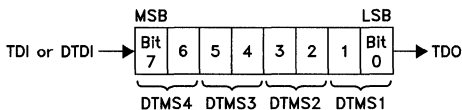

FIGURE 4. SELECT REGISTER BITS AND ORDER OF SCAN
The select register (SR) is an eight-bit serial register that determines which one, if any, of the DTMS lines follows the TMS or OTMS input. A reset operation forces all bits to a logic 0. The register is divided into four two-bit sections, each of which controls one DTMS output. Figure 4 shows the mapping of the bits to the DTMS outputs and the order of scan. For each DTMS pin, the higher order bit is the MSB and the lower order bit is the LSB (e.g., bit 3 is the MSB of DTMS2 and bit 2 is the LSB of DTMS2).